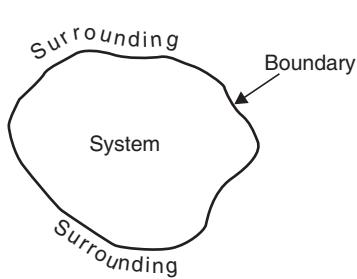

Fig. 1.1. The system.
**System.** A system is a finite quantity of matter or a prescribed region of space (Refer Fig. 1.1)